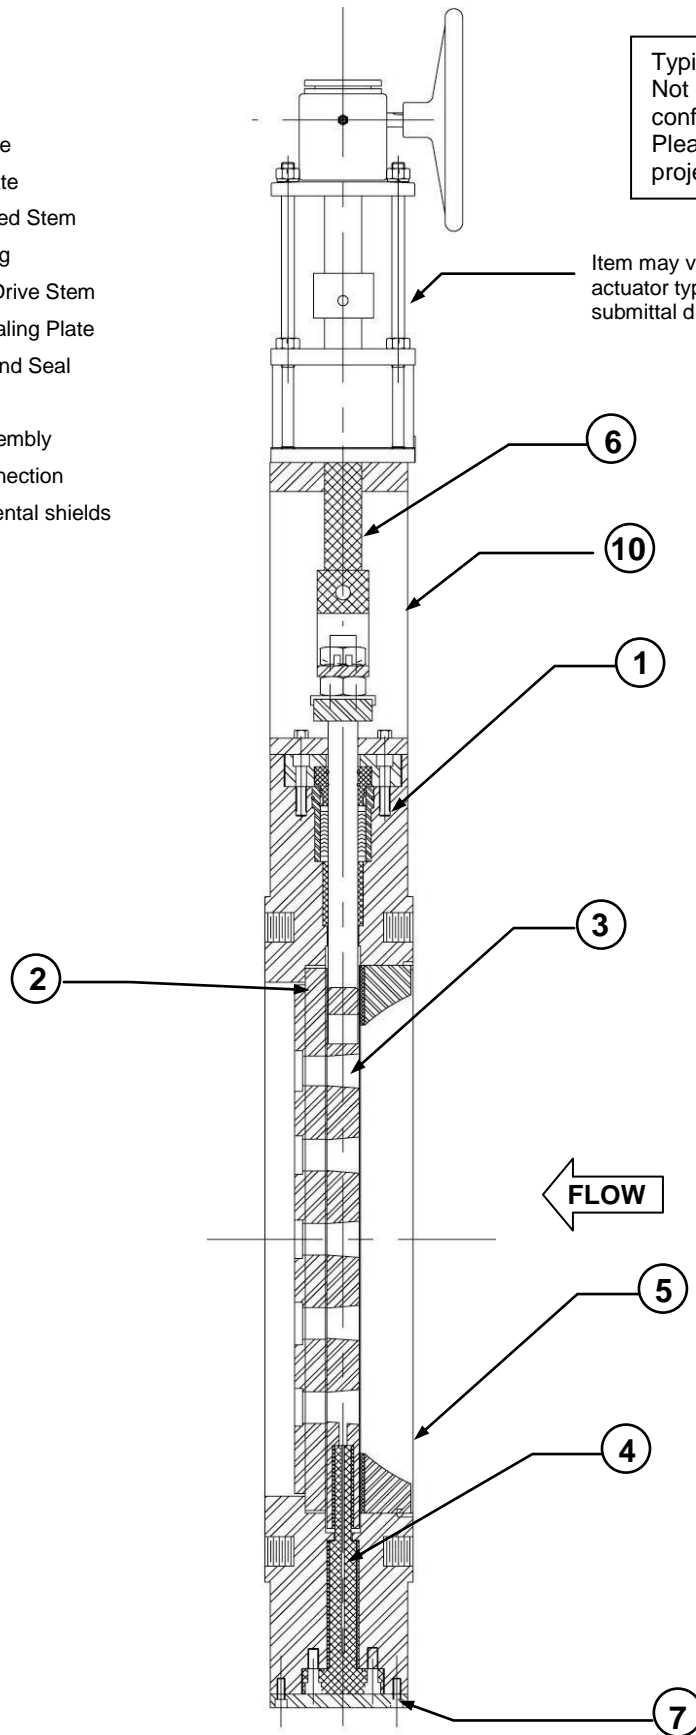

Figure 1
1.1.1 **DESIGN OF THE CCED VALVE** *(Refer to Figure 1 on page 4)*
If a leak develops in the lower cap (7) – see Figure 1 on page 3, remove the outer lower cap only and replace the o-ring in (7). **Do not remove the lower shaft (4) or bolts, unless the valve is removed from the pipe.**